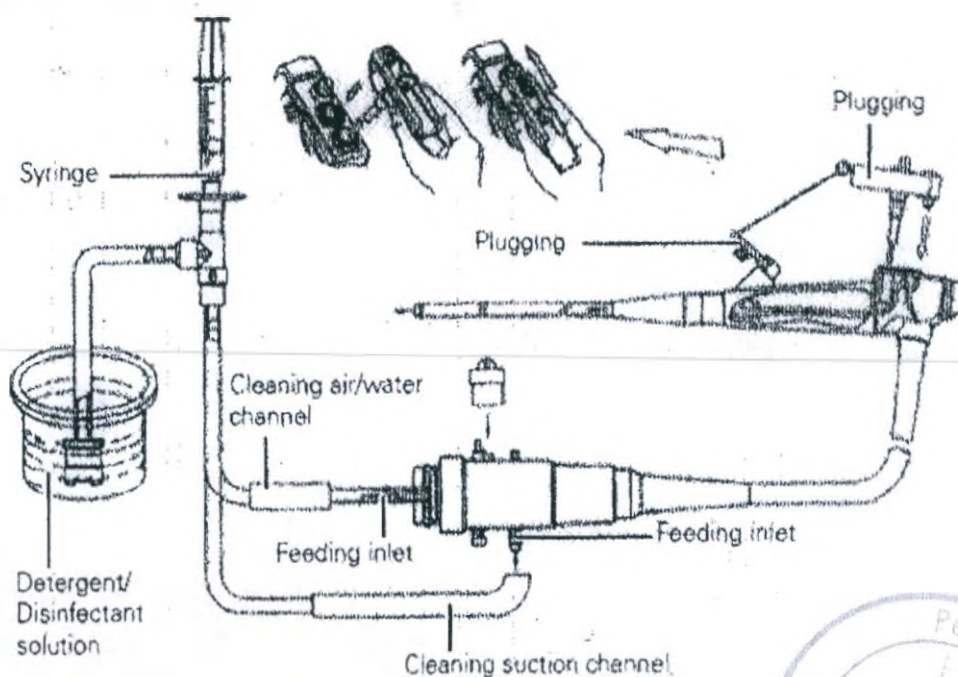

Fig.23. Schematic image of the introduction of detergent solution.
- b. Using 50 ml of syringe, sequentially insert the washing solution into the air/water channel and the aspiration channel of the endoscope through the injection tube at least 15 times (750 ml) (as shown in Fig. 23).